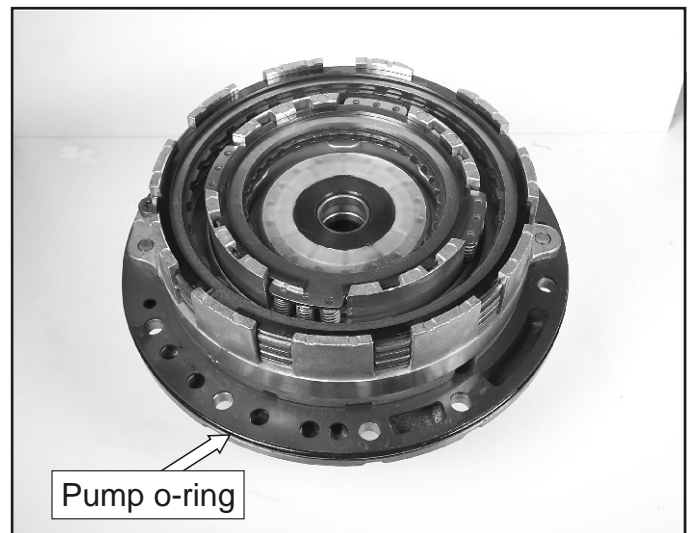

Figure 127
73. Install pump o-ring as shown in Figure 127.